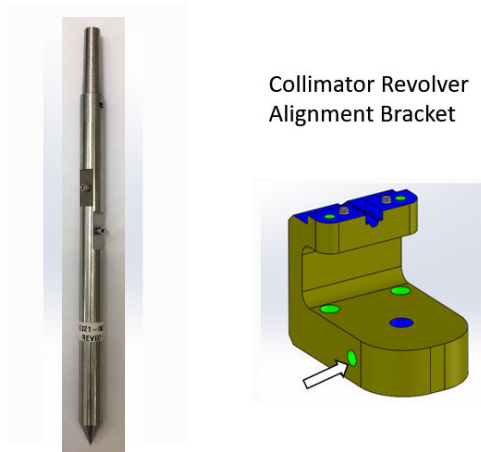

Figure 1-10. Front Pointer and Revolve Alignment Bracket
12. Insert front pointer to collimator on 25 mm hole through the revolve alignment bracket and secure the pointer by finger- tightening it with the Nylon screw on the side (see Figure 1-10).